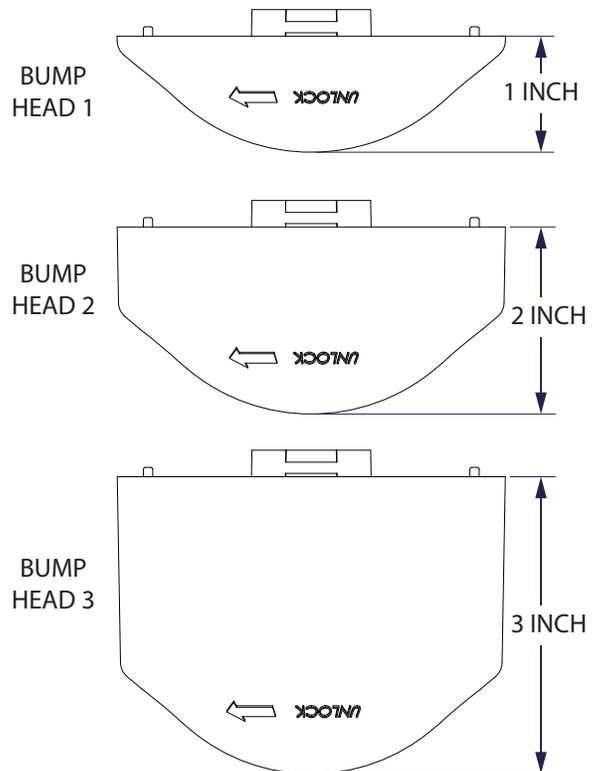

FIGURE 13: Setting The Height Of Your Cut With Bump Heads.
The height of the cut can be set using three different height bump heads. The recommended cutting height for the average yard is two (2) inches. **SEE FIGURE 13**